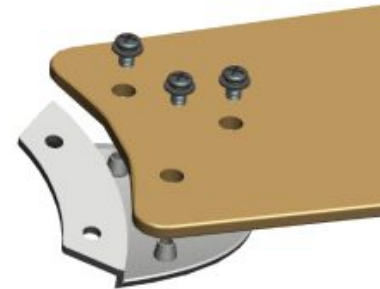

Fig 3.1
- 3.1 Locate 15 blade attachment screws in the hardware pack. Secure each blade to the blade bracket using blade screws as shown in Fig 3.1.